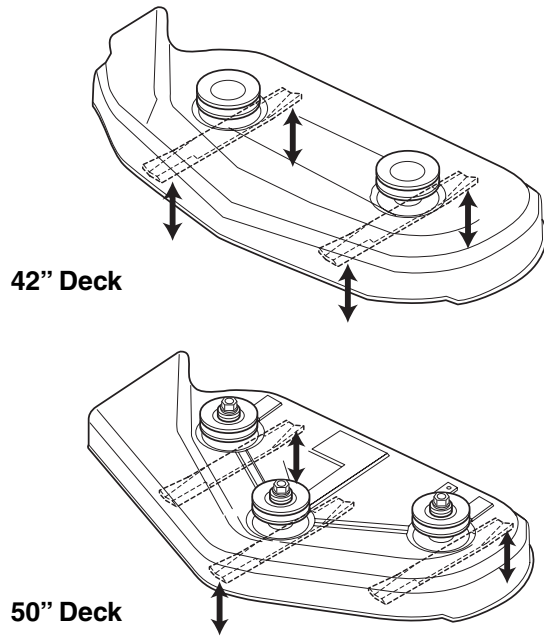

Figure 53. Orient Blades Front-to-Back
1. Turn the blades front-to-back as shown in Figure 53. Measure the distance from the ground to front tip of center blade, and from ground to rear tips of left hand and right hand blades (Figure 53). Front tips should be 1/8"-1/4" (3-6 mm) higher than rear tips. If not, proceed to step 2.